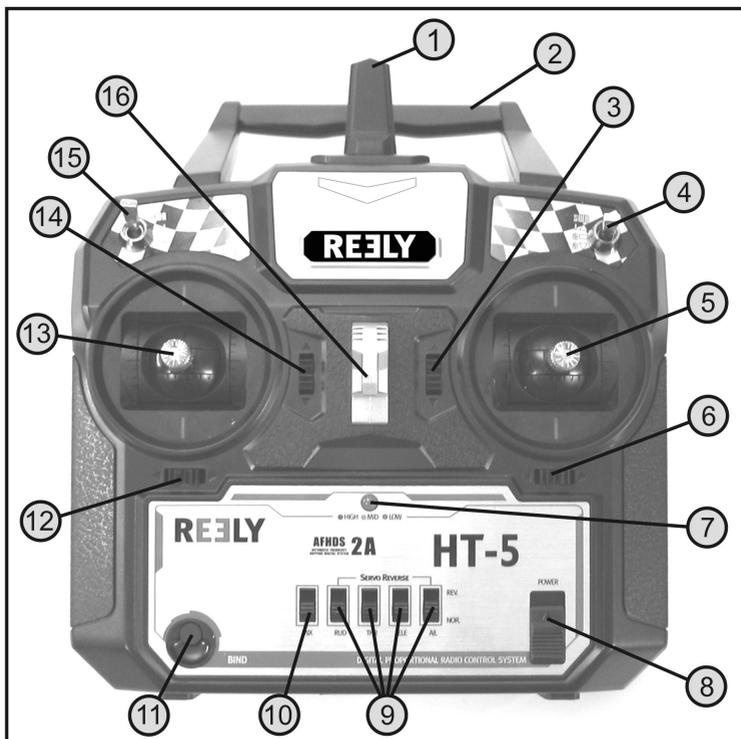

Figure 1
When new batteries are inserted, switch on the transmitter with the function switch (see figure 1, item 8) for test purposes. For this, slide the operating switch from the bottom (off) to the top (on).
The transmitter emits a short signal sound and the LED display (also see figure 1, item 7) lights up green permanently.
The remote control "HT-5" has a finely tuned digital trimming with which the first four control channels can be individually set with a trimming button (also see figure 1, items 3, 6, 12 and 14).